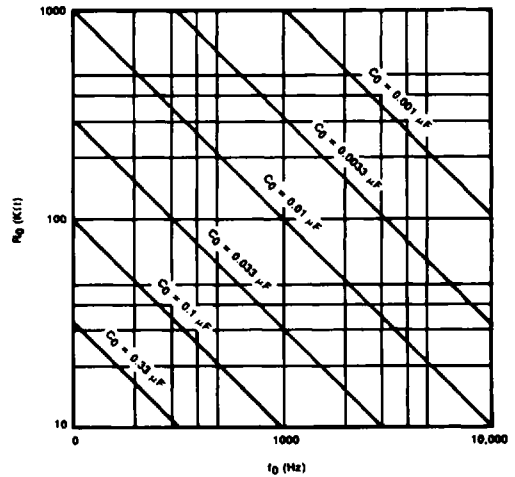

Figure 6. VCO Frequency vs Timing Capacitor
- c) Calculate value of C_0 from design equation (1) or from Figure 6:
- Calculate C_0 to set center frequency, f_0 equal to f_S (see Figure 6): $C_0 \approx 1/R_0 f_S$
- Choose C_0 for $f_0 = 1\text{kHz}$ (from Figure 6): $C_0 = 0.05\mu F$.